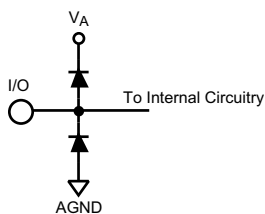

Figure 1.
- The inputs are protected as shown below. Input voltage magnitudes above V_A or below GND will not damage this device, provided current is limited per Note 4 in the Absolute Maximum Ratings table. However, errors in the A/D conversion can occur if the input goes above 2.6V or below GND as described in the Operating Ratings section, see Figure 1.
- (1) The inputs are protected as shown below. Input voltage magnitudes above V_A or below GND will not damage this device, provided current is limited per Note 4 in the Absolute Maximum Ratings table. However, errors in the A/D conversion can occur if the input goes above 2.6V or below GND as described in the Operating Ratings section, see Figure 1.
- (2) With a full scale differential input of $2V_{P-P}$, the 14-bit LSB is $122.1\text{ }\mu\text{V}$.
- (3) Typical figures are at $T_A = 25^\circ\text{C}$ and represent most likely parametric norms at the time of product characterization. The typical specifications are not guaranteed.
- (4) This parameter is specified in units of dBFS - indicating the value that would be attained with a full-scale input signal.
- (2) With a full scale differential input of $2V_{P-P}$, the 14-bit LSB is 122.1 μV .
- (4) I_{DR} is the current consumed by the switching of the output drivers and is primarily determined by load capacitance on the output pins, the supply voltage, V_{DR} , and the rate at which the outputs are switching (which is signal dependent). $I_{DR} = V_{DR}(C_0 \times f_0 + C_1 \times f_1 + \dots + C_{13} \times f_{13})$ where V_{DR} is the output driver power supply voltage, C_n is total capacitance on the output pin, and f_n is the average frequency at which that pin is toggling.
- (1) The inputs are protected as shown below. Input voltage magnitudes above V_A or below GND will not damage this device, provided current is limited per Note 4 However, errors in the A/D conversion can occur if the input goes above 2.6V or below GND as described in the Operating Ratings section. Figure 1
- (2) With a full scale differential input of $2V_{P-P}$, the 14-bit LSB is $122.1\ \mu\text{V}$.